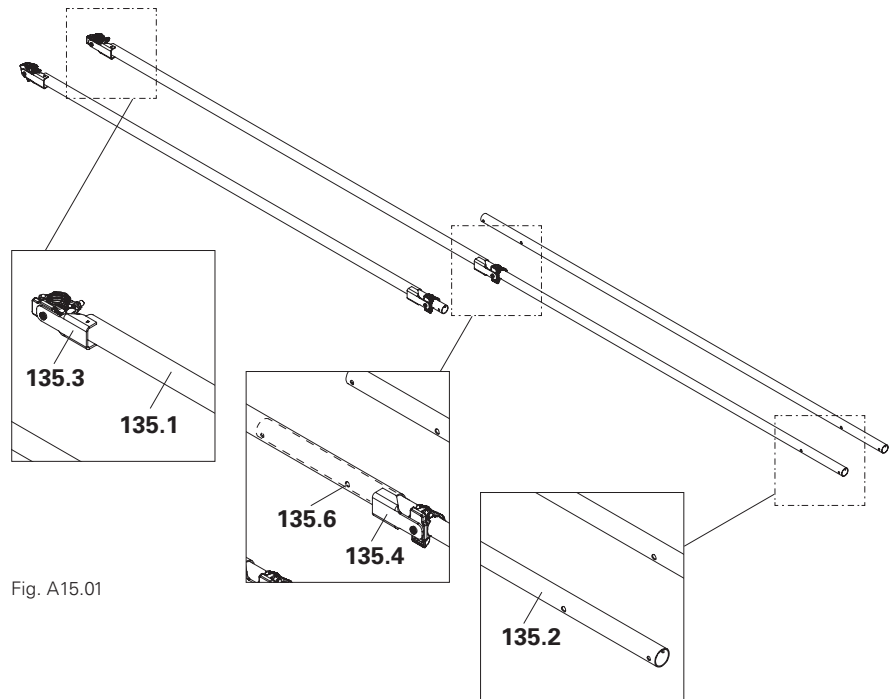

Fig. A15.01
- Inner tube Ø 48 mm (**135.2**). (Fig. A15.01)
- Maximum extension length 5.60 m. The second hole (**135.6**) in the inner tube must not be visible and must always be completely covered by the outer tube. (Fig. A15.01)